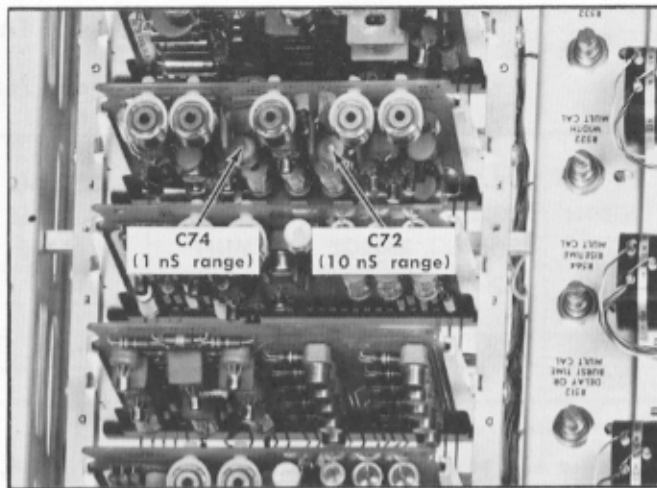

Fig. 7-26. Location of C72 and C74 on Pulse Shape Generator (Series F) card for setting fast risetime-falltime rates.
o. Adjust—C72 on the Series F card (see Fig. 7-26) if the risetime is not correct. Remove the adjustment tool while observing the risetime.
ee. Adjust — C74 on the Series F card (see Fig. 7-26) if the risetime is not correct. Remove the adjustment tool while checking the risetime.